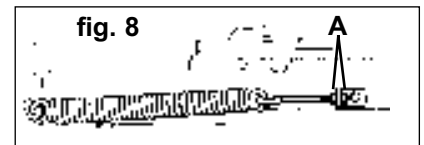

fig. 8
- 5.11.4. If necessary, adjust the tension to 5-6 kg by turning the nuts (fig.8.A) on the spring adjusting rod. When adjustment is complete tighten both nuts to lock rod in position.